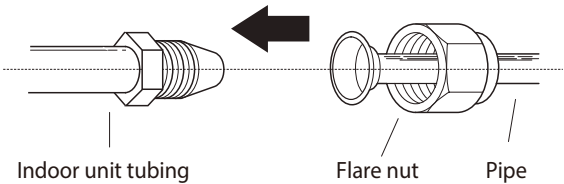

Fig. 6.7
- Align the center of the two pipes that you will connect. See Fig. 6.7 .